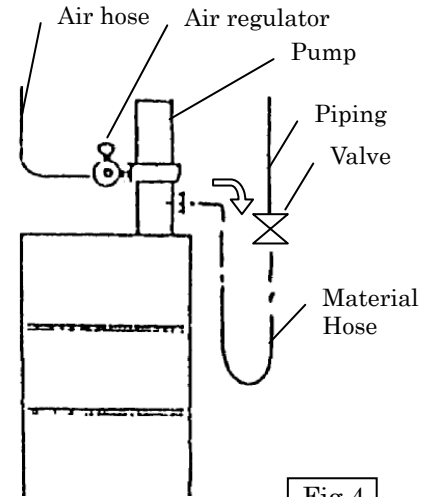

Fig.4
- 2) Install a valve between the end of the hose and the piping. (Fig. 4)